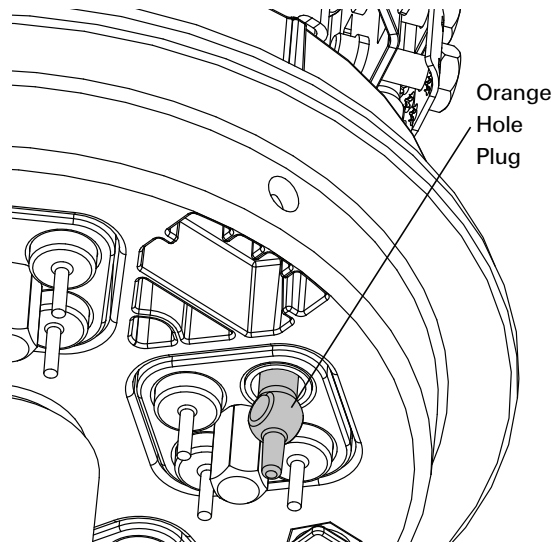

Figure 10
**Note:** If for any reason it is necessary to remove a drop cable from the closure, the port must be plugged with an orange, dumbbell-shaped hole plug. Orange hole plugs are stored in the ground clamps and should be saved and stored inside the closure for later use. The correct position of the orange hole plug is shown in Figure 10.